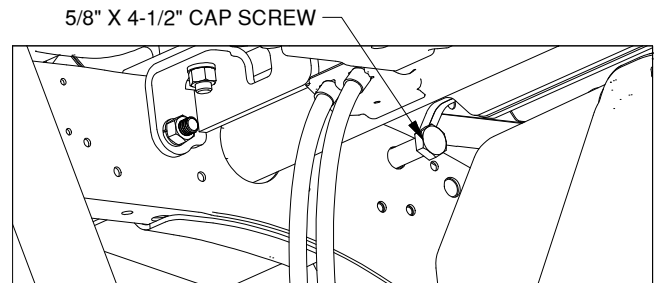
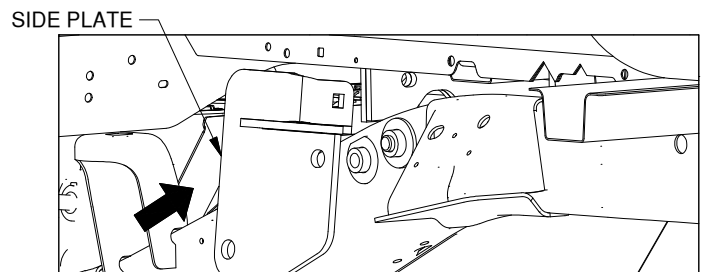

Figure H1: Looking at inside of driver side frame.
Figure H2: Looking in driver side wheel well.
2. **Place side plate onto frame.** Insert a 5/8" x 4-1/2" cap screw into the frame from the inside of the frame rail as shown in Figure H1. The threaded end of the cap screw should be flush with the outside wall of the frame. Position the driver side plate so that the ear is on top and pointing toward the frame in the driver side rear wheel well. With the ear tipped toward the truck lift the side plate into place, as shown in Figure H2.